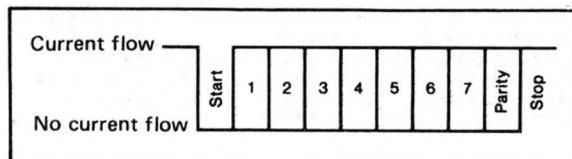

Fig. 4 Serial Data Format of SO20 mA
through the line or not (see Fig. 4). For setting the mode of operation, a row of microswitches (KS) has been provided on the panel; the microswitches can be programmed as specified in Table 6. In graphic mode, codes ENQ (05 H), XON (11 H) and XOFF (13 H) are graphic signals, thus having no effect on the interface. For the pin assignment of the interface connector please see Table 7.